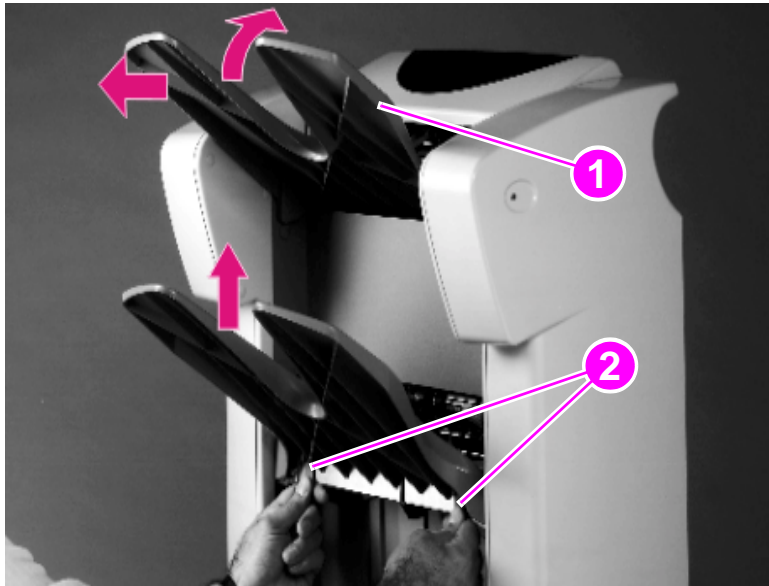

Figure 96. Face-up bin and stapler/stacker bin
- 1 Tilt the end of the face-up bin upward (figure 96, callout 1).